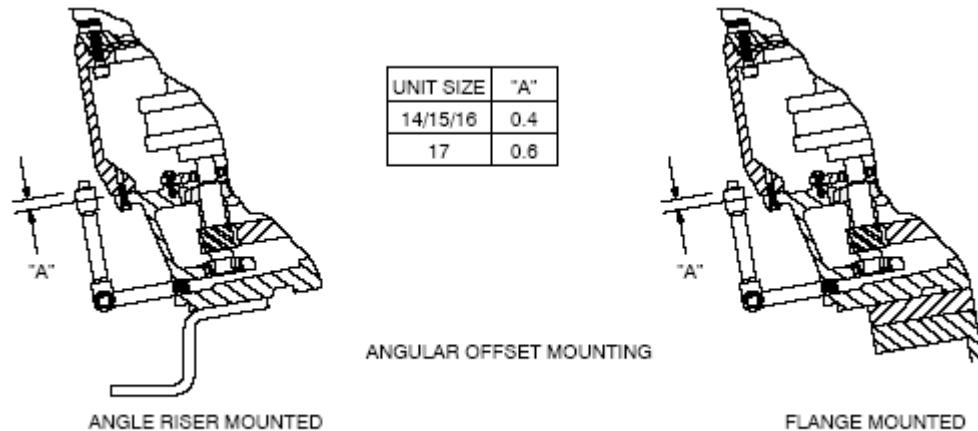

FIGURE 2
- b. Mixers with angular offset mounting are furnished with a stand pipe type arrangement for oil measurement. The stand pipe/oil drain assembly must be adjusted to maintain the elevation of the stand pipe in respect to the top face of the gear drive (see Figure 2), using the values in the table. Once this has been accomplished, fill the stand pipe to the top and replace the oil plug. The oil level should be maintained within 1/8" of the top of the stand pipe.